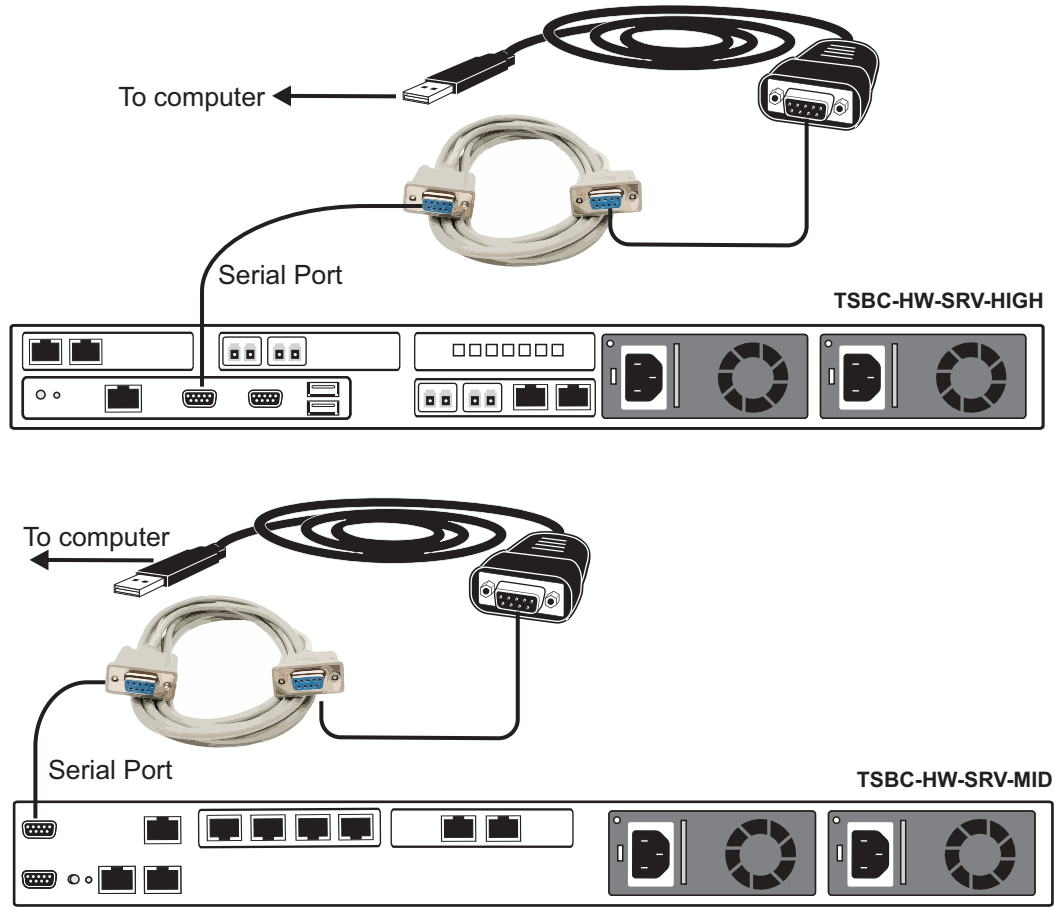

Figure 7.3 USB to DB9 Adapter
1. Connect the USB connector of the cable to a USB port on your computer and the DB9 male connector of the cable to one end of a null modem DB9 female-female cable. Connect the other end of the null modem DB9 female-female cable to the DB9 serial port of the TSBC-HW-SRV. See figure 7.3 on page 40.